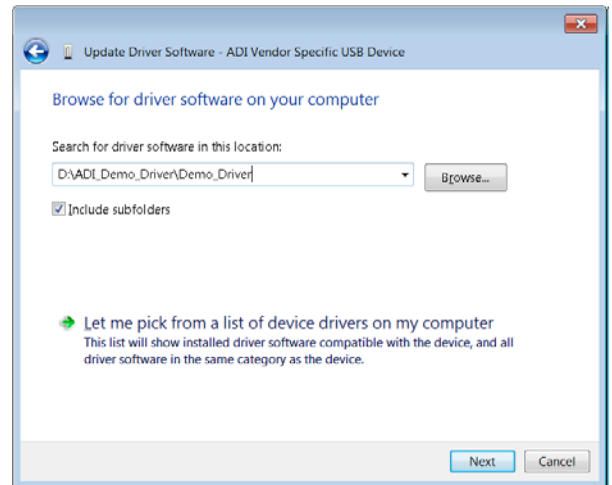

Figure 11. Browse for Driver Software Window
- Choose the unzipped **D:\ADI_Demo_Driver\Demo_Driver** folder and then click **Next** (see Figure 11).